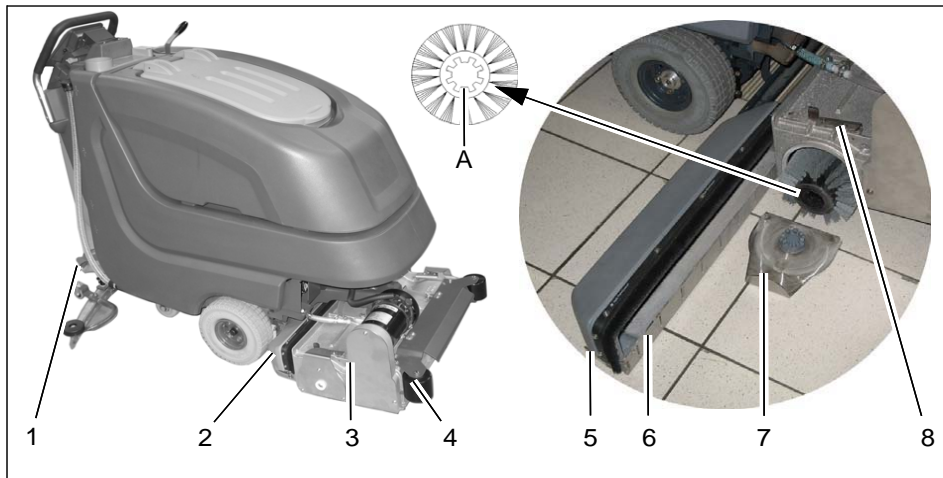

Fig.11
Clean dirt hopper (Fig. 11/2) at daily intervals or as required.
Use quick-release (Fig. 11/5) to loosen feed inlet (Fig. 11/6) and clean dirt hopper.
1. Raise the cylindrical brush deck (Fig. 11/3) using pedal (Fig. 11/1).
2. Release brush seating (Fig. 11/7) by locking lever (Fig. 11/8).
Check roller bumpers (Fig. 11/4) at weekly intervals and replace if required.
2. Loosen the screws on the eccentric wheel (Fig. 11/1) and adjust the squeegee using the eccentric wheel (SW13) so that the ends of the sealing strips still have contact with the floor.